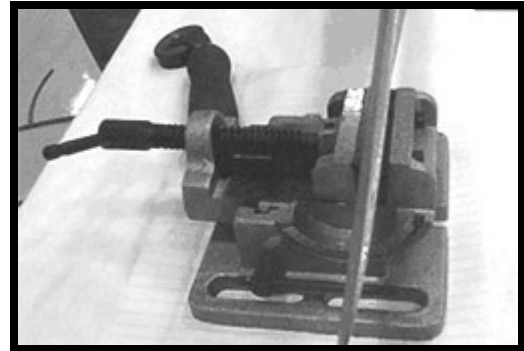

Figure 5.1
**NOTE:** For convenience, the blade may be held in a padded jaw vise. (See Figure 5.1)